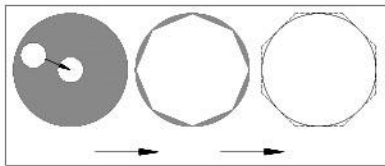

Fig. 24
Use the two centering screws ② to adjust the two field iris diaphragm centering screws alternately to move the image of the diaphragm to the center. Fig. 24 shows the adjustment of diaphragm.